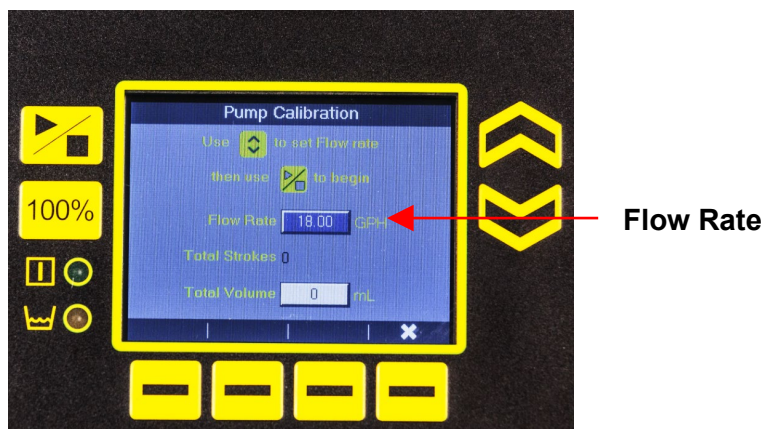

Figure 27: Pump Calibration (Set Flow Rate)
3. On the *Settings* screen, select **Calibration**. The Flow Rate box is pre-selected (Figure 27).